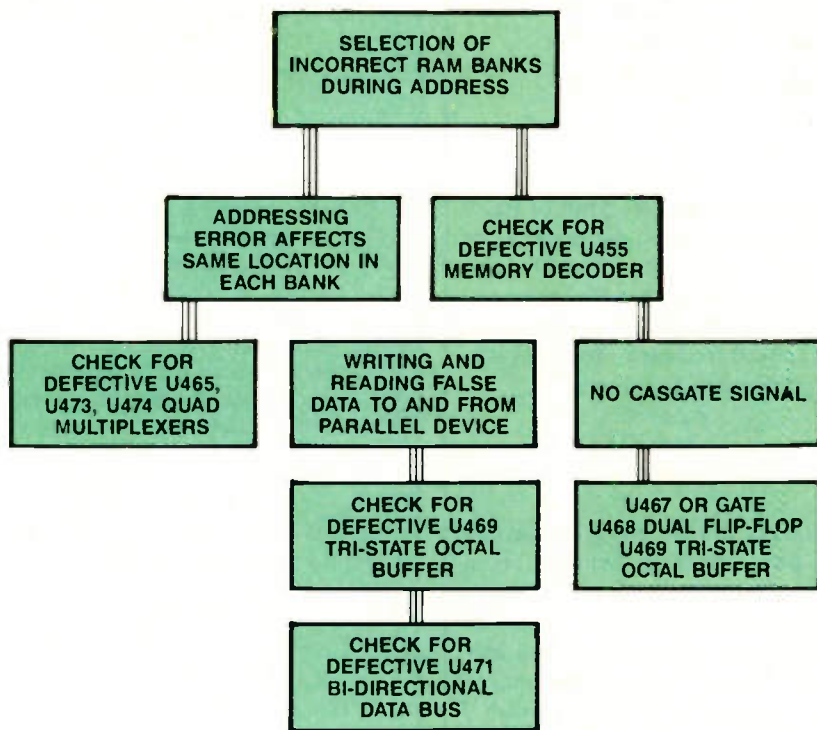

Figure 4. This problem-solving flow chart for random-access memory error symptoms shows some of the likely problem components for certain common errors.
8. The logic circuit in Figure 4 was drawn by Bobby Ordflug. He's not very good at drawing, but he has shown the correct connections for what kind of logic circuit?
Figure 4 shows a problem-solving flow chart for RAM error symptoms. As shown in the chart, a defective U455, a memory decoder, will cause the selection of incorrect RAM banks during the address operation. Again referring to the flow chart, notice that another addressing error affecting the same location in each bank may also appear. Suspect the multiplexing circuitry contained in U465, U473 and U474 if this problem arises. A lack of the column-address logic signal or CASGATE will cause the loss of the high-order address signals. Because U467, U468 and U469 supply the signals needed for CASGATE, the technician should center his attention on the OR gate, the dual flip-flop and the tri-state octal buffer. A defective tri-state data latch, U470, will cause the drop-out of data for any user memory. A faulty bidirectional data bus IC, U471,